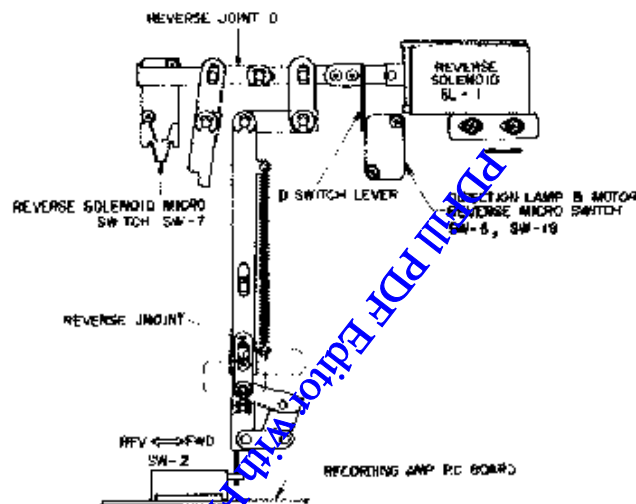

Fig. 6
12. POSITION ADJUSTMENT OF REVERSE SOLENOID SL-1 (Refer to Fig. 6)
13. D SWITCH LEVER ADJUSTMENT (Refer to Fig. 6)
14. INSTALLATION POSITION ADJUSTMENT OF REVERSE JOINT (Refer to Fig. 6)